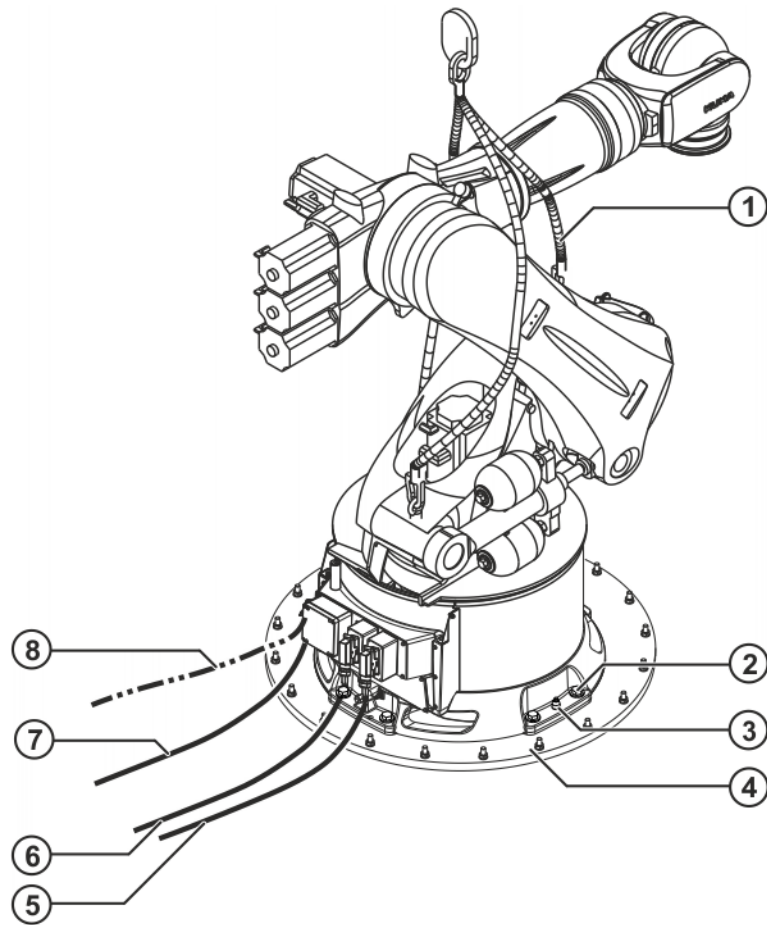

**Fig. 11-1: Transport position**
3. Put the robot into operation and move it into the transport position (>>> Fig. 11-1 ).